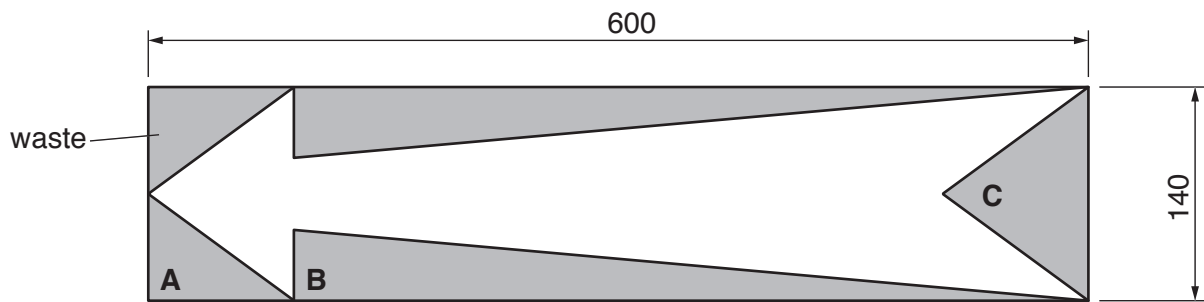

Fig. 11
- (a) Fig. 11 shows the sign marked out ready to be cut to shape.